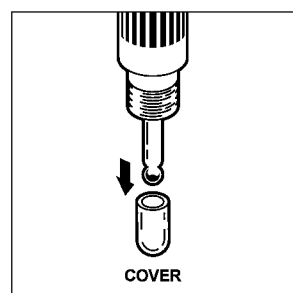

FIGURE 6
7. If your controller is equipped with a pH or ORP sensor, remove the liquid filled protective cover from the sensor tip. **IMPORTANT! Do not allow the sensor's tip to dry out, see Warning at left! (Figure 6)**